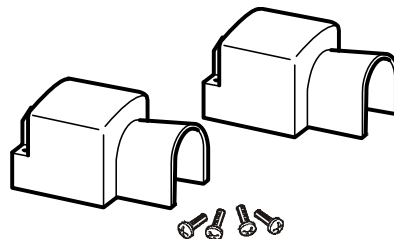

Figure 6 DC Terminal Covers
10. To protect the DC terminals, attach the DC terminal covers (Figure 6) to the inverter/charger, using the screws provided.